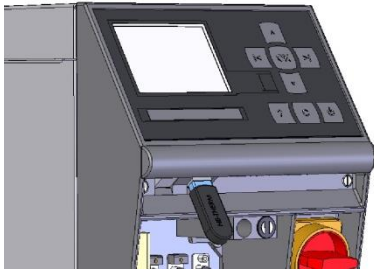

Fig. 89: Connect USB data carrier
2. Connect USB data carrier (Fig. 89).